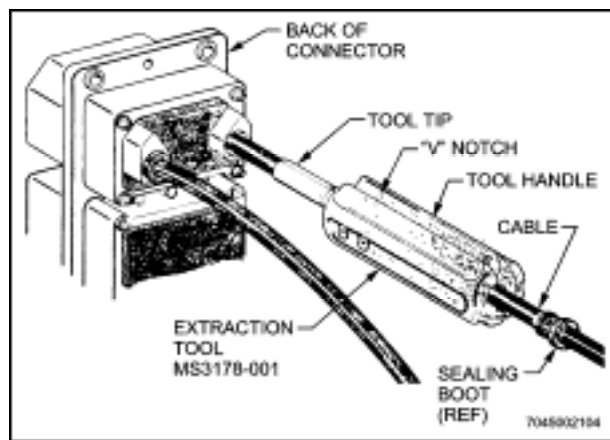

Figure 10-66 Removal of Rear-Release Coaxial Contacts From MIL-C-81659 Connectors
- b. Place the cable over the "V" notch of the extraction tool handle. Then press the cable into the notch. The tool handle will spread open and allow the cable to enter. Make certain the cable is seated in the full length of the tool as shown in Figure 10-66.